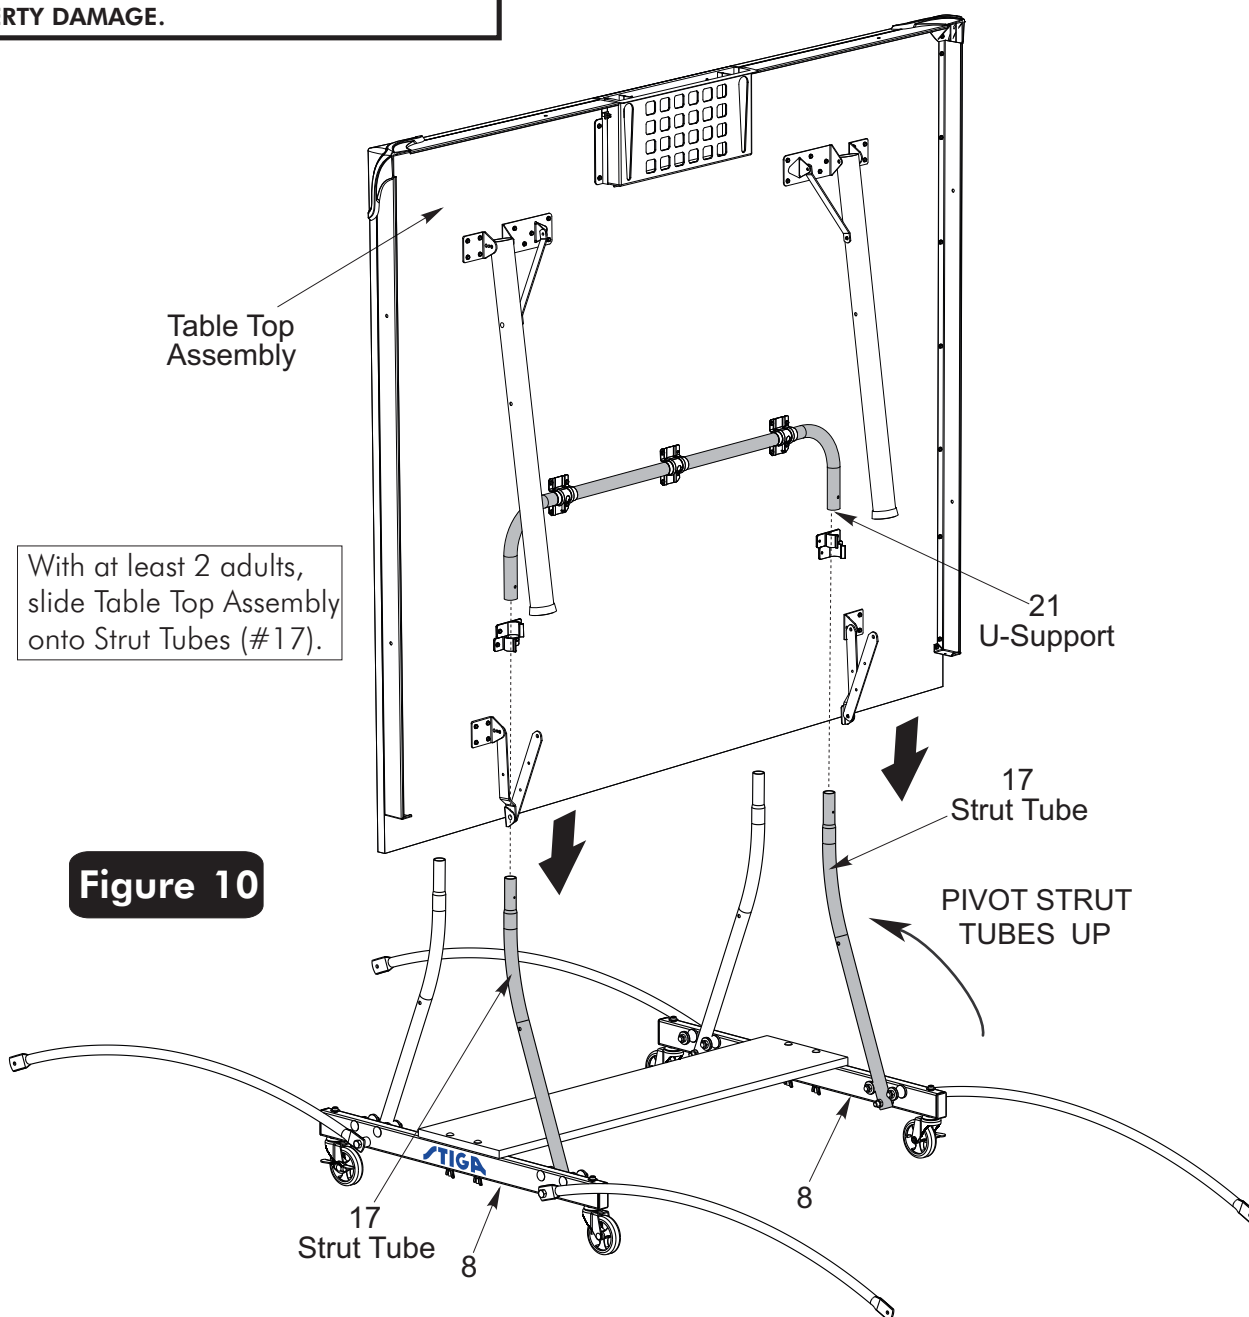

Figure 10
19. Attach Table Top Assembly to Base Assembly as shown in **Figure 10**. Pivot Strut Tubes (#17) up as shown; then, with at least one adult on each side of Table Top, lift top and align ends of U-support tube (#21) with tops of Strut Tubes (#17) on Caster Beams (#8) as shown in **Figure 10**. Slide tubes together.